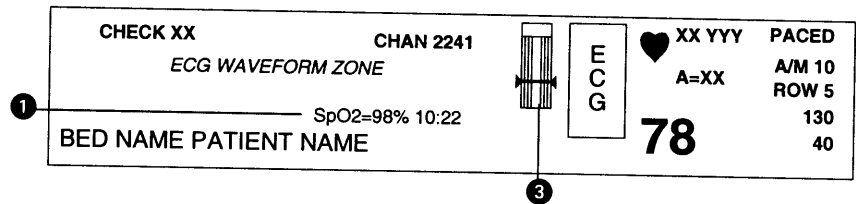
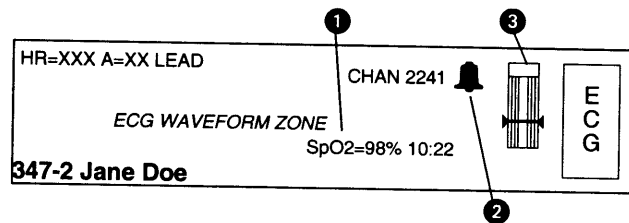

Figure 3-2: Display Zone — Full Screen
Figure 3-3: Display Zone — Split Screen
When SpO₂ alarms are enabled, a bell symbol will be displayed between the "SpO₂" label and the SpO₂ measured saturation value. When any SpO₂ alarm is detected, the displayed parameter value (item 1 in *Figure 3-2* and *Figure 3-3* on page 3-3) will blink yellow if the alarm priority is Low or Medium, and will blink red if the alarm priority is High. This is done independently of any other ECG or NIBP alarm indications.